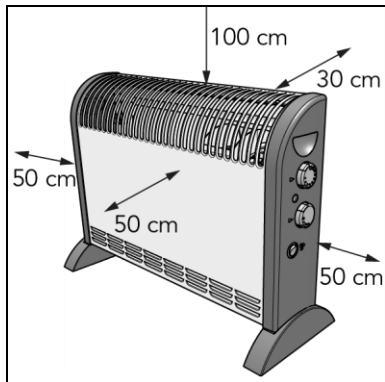

Figure 6
6. Place the device with a minimum clearance distance (Figure 6) of: